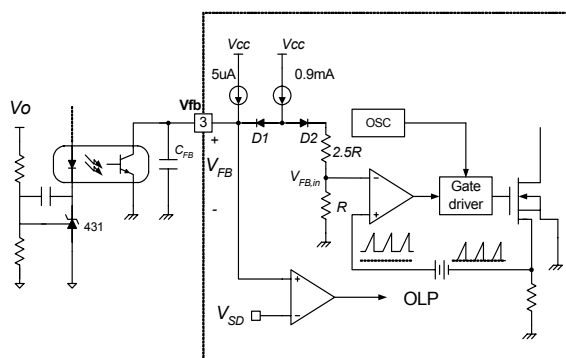

Figure 5. Pulse Width Modulation (PWM) Circuit
2. Feedback Control : The FSDL0165RN employs current mode control, as shown in Figure 5. An opto-coupler (such as the H11A817A) and shunt regulator (such as the KA431) are typically used to implement the feedback network. Comparing the feedback voltage with the voltage across the Rsense resistor plus an offset voltage makes it possible to control the switching duty cycle. When the KA431 reference pin voltage exceeds the internal reference voltage of 2.5V, the optocoupler LED current increases, the feedback voltage Vfb is pulled down and it reduces the duty cycle. This event typically happens when the input voltage is increased or the output load is decreased.
4.4 Over Voltage Protection (OVP) : In the event of a malfunction in the secondary side feedback circuit, or an open feedback loop caused by a soldering defect, the current through the opto-coupler transistor becomes almost zero (refer to Figure 5). Then, V_{FB} climbs up in a similar manner to the over load situation, forcing the preset maximum current to be supplied to the SMPS until the over load protection is activated. Because excess energy is provided to the output, the output voltage may exceed the rated voltage before the over load protection is activated, resulting in the breakdown of the devices in the secondary side. In order to prevent this situation, an over voltage protection (OVP) circuit is employed. In general, V_{cc} is proportional to the output voltage and the FPS uses V_{cc} instead of directly monitoring the output voltage. If V_{CC} exceeds 19V, OVP circuit is activated resulting in termination of the switching operation. In order to avoid undesired activation of OVP during normal operation, V_{cc} should be properly designed to be below 19V.